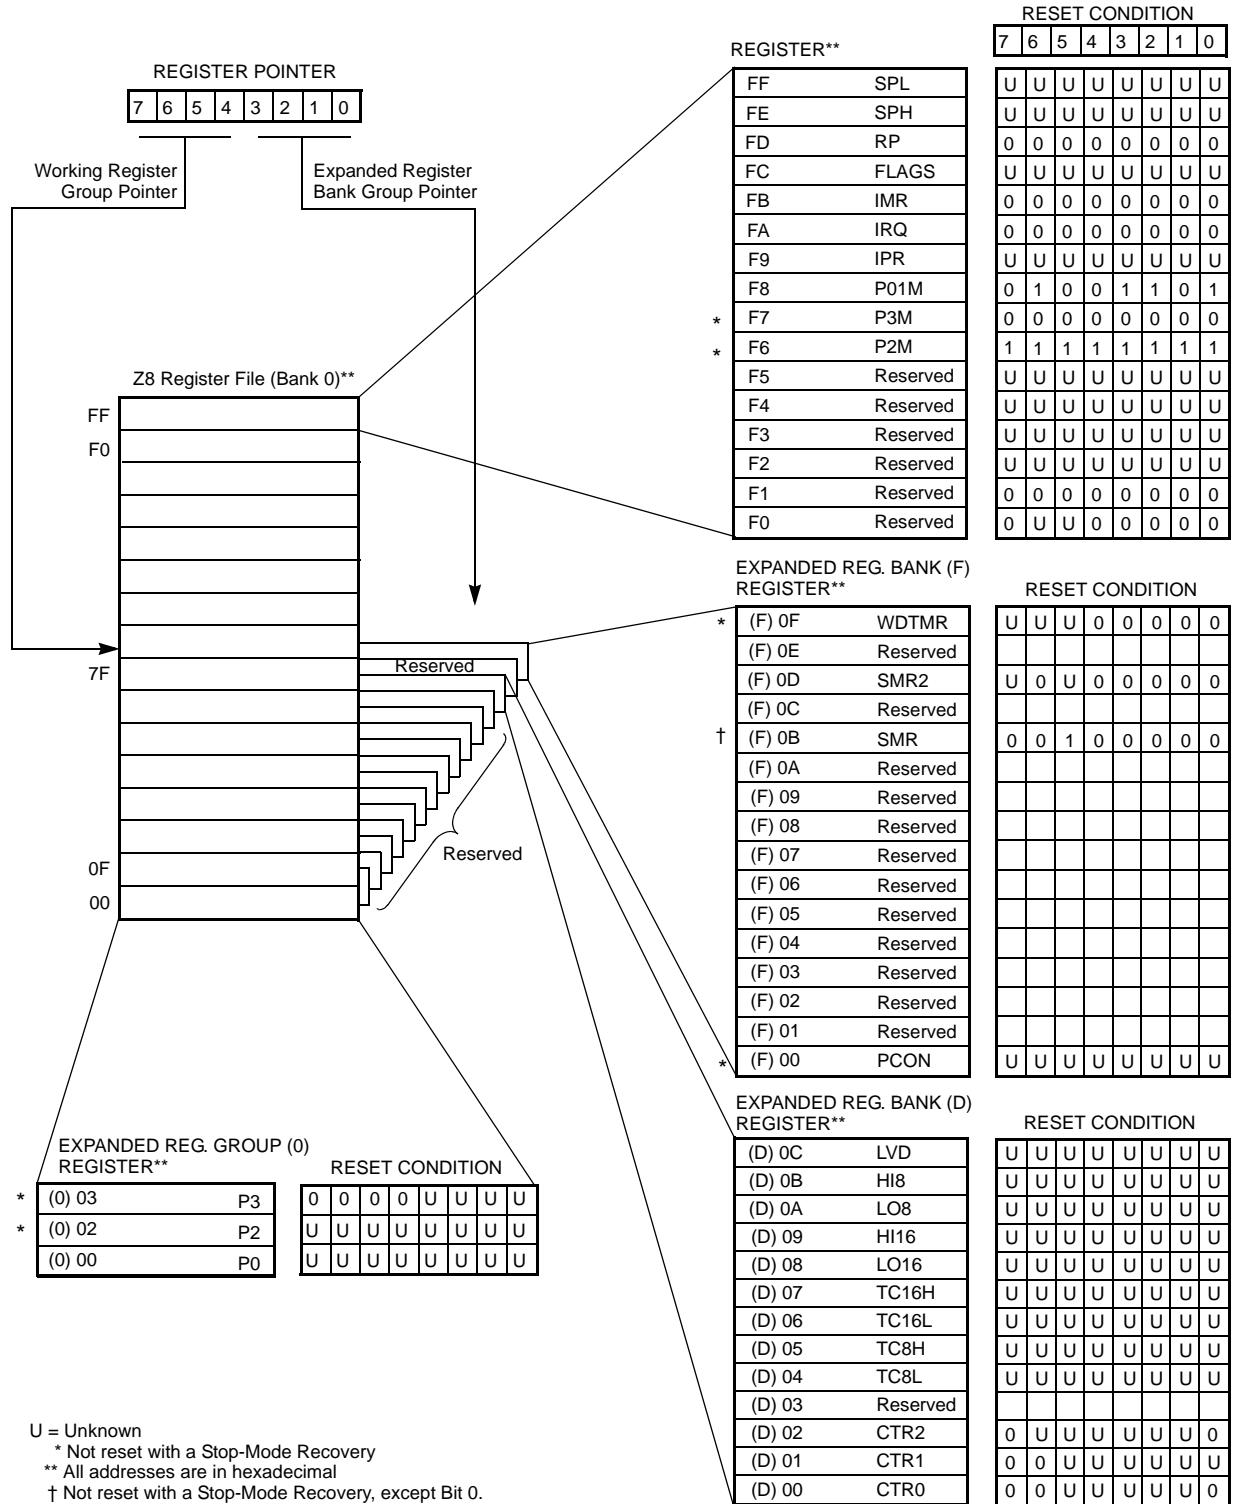
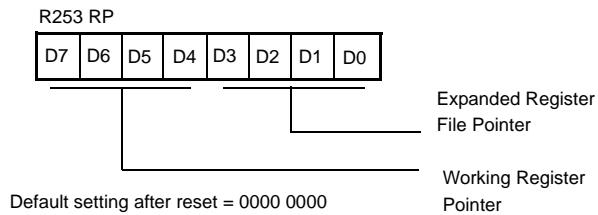

Figure 11. Expanded Register File Architecture
Figure 12. Register Pointer Register
- ▶ **Note:** An expanded register bank is also referred to as an expanded register group (see Figure 11).
The upper nibble of the register pointer (Figure 12 on page 22) selects which working register group of 16 bytes in the register file, out of the possible 256, is accessed. The lower nibble selects the expanded register file bank and, in the case of the Z86L82X family, banks 0, F, and D are implemented. A 0h in the lower nibble allows the normal register file (bank 0) to be addressed, but any other value from 1h to Fh exchanges the lower 16 registers to an expanded register bank. For example, for the Z86L82X (see Figure 11):